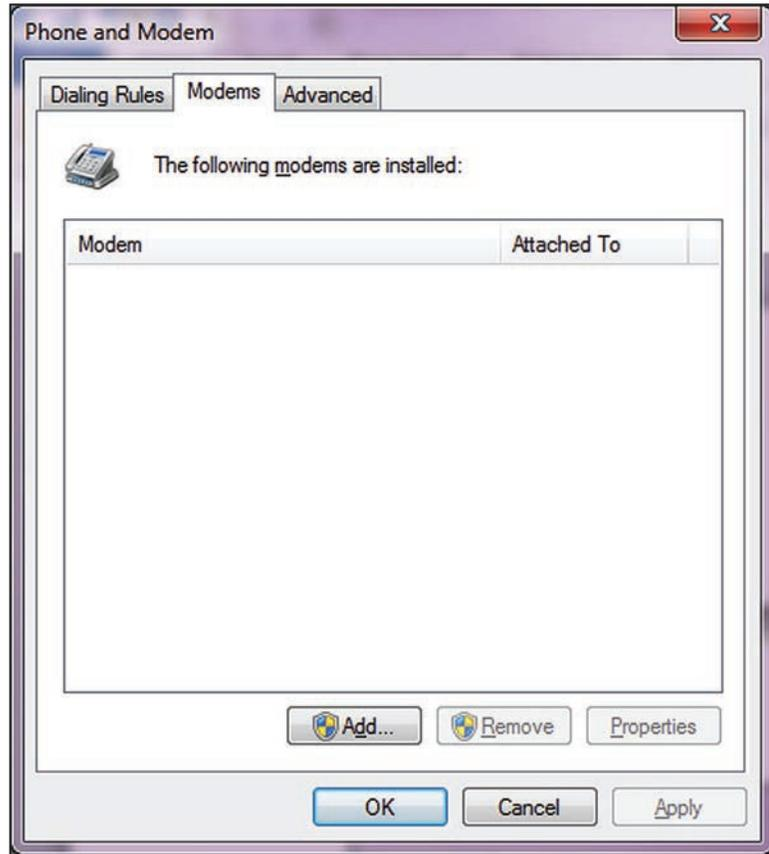

Figure 3. The Modems tab in the Phone and Modem dialog box.
STEP 3. If the Phone and Modem dialog box does not show the **Modems** tab (see Figure 3), enter the location information in the **Dialing Rules** tab. Then, click on the **Add** button.